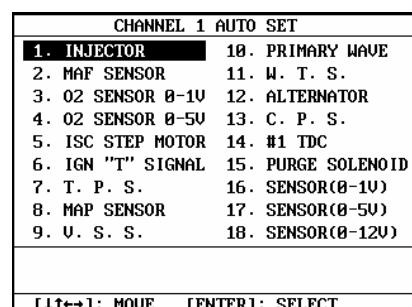

Fig.2-04
When one of the items 2 - 5 on the main menu is selected, it is necessary to select the type of the sensor since each sensor has particular voltage and frequency. The menu for sensor selection (18 items in total) is as shown in Fig.2-04.